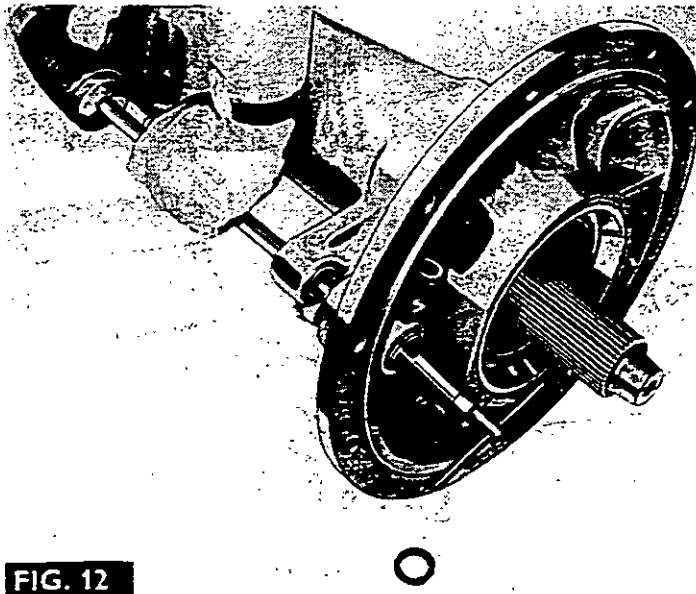

FIG. 12
3. Withdraw the axle shaft (4), complete with shims (10), hub and bearing assembly (7) and brake assembly (1) from the trumpet housing.
4. Fig. 12. Using tool MF 259A, cut a thread into the bush (74), then drive out the tool and bush as shown.